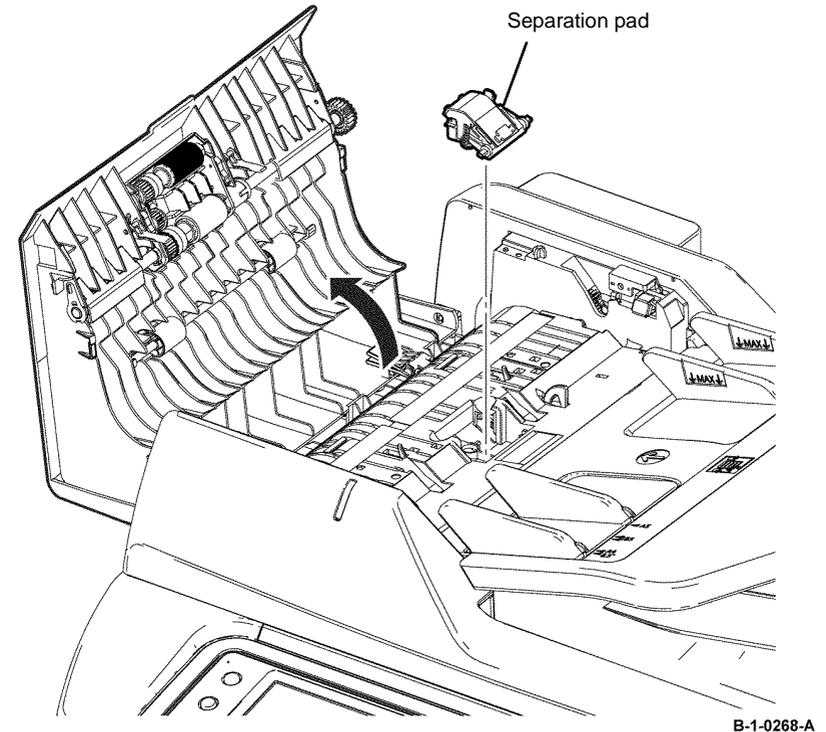

Figure 1 Separation pad removal
2. Release two hooks, then remove the separation pad, Figure 1.